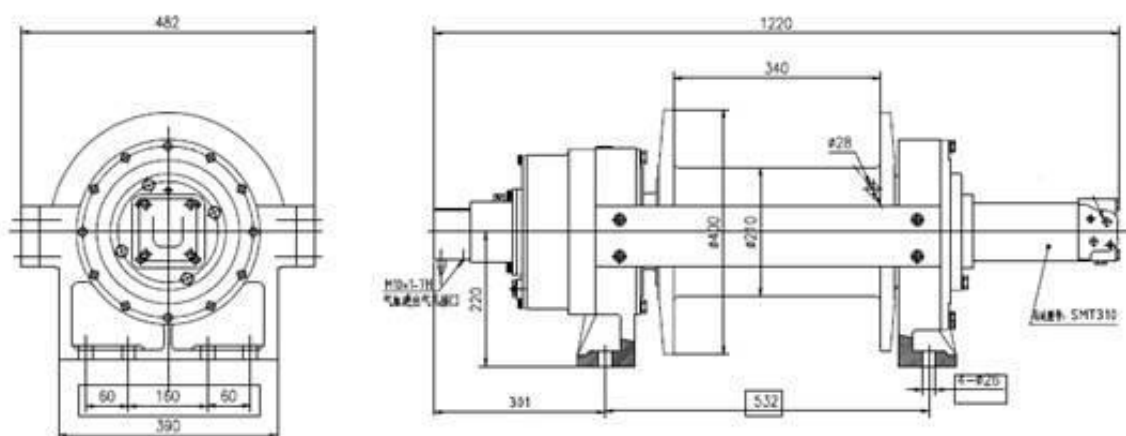

Figure 1
1. The fix way: use 8× M24 12.9 bolts (which are high strength bolts, intensity lever is 12.9) to fix the winch, the fasten torque of bolt is 1098-1464 N.m; the situation of bolts see figure 1